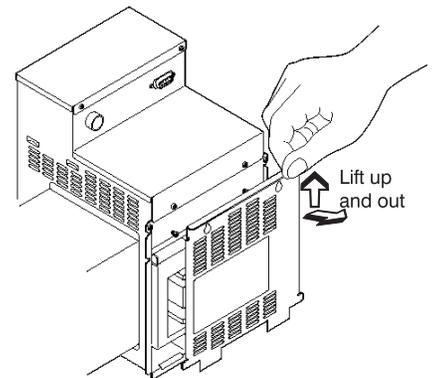

Figure 4.3. Remove lamp door
- 5) Grasp the lamp module, by its housing and slide it along the side rails until it is free from the module. To prevent damaging the lamp, DO NOT use force when removing. (Figure 4.3.)